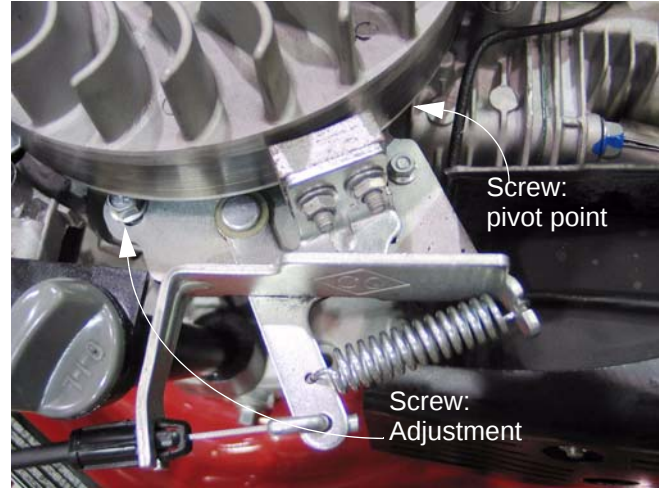

Figure 5.49
- 5.49. There are two screws that hold the brake assembly to the engine. They can be loosened using a 10mm wrench. See Figure 5.49.